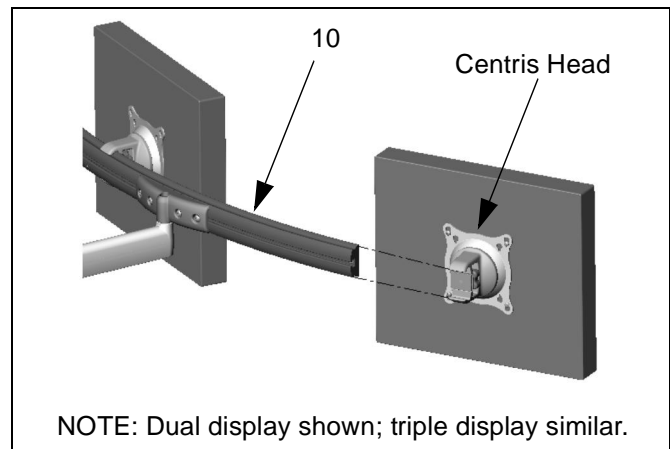

Figure 16: Install Display
6. Slide the Centris head (dual knob assembly) onto the array (10) (See Figure 16). Ensure both the top and the bottoms of the Centris head are engaged into the corresponding slots in the array (10).